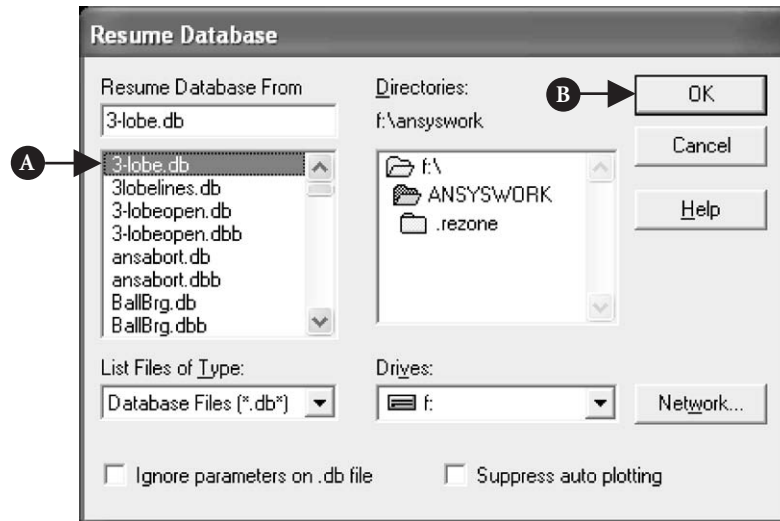

Figure 2.4 Resume problem from saved database.
- (1) Using the Launcher. (i) In the ANSYS Launcher, select Interactive and specify the previously defined jobname. (ii) When ANSYS is running, select Utility Menu: File: Resume Jobname.db. This will restore as much of the database (geometry, loads, solution, etc.) as was previously saved.
- (2) Start ANSYS and select **Utility Menu: File → Resume from** and click on the job from the list that appears. Figure 2.4 shows the resulting frame.